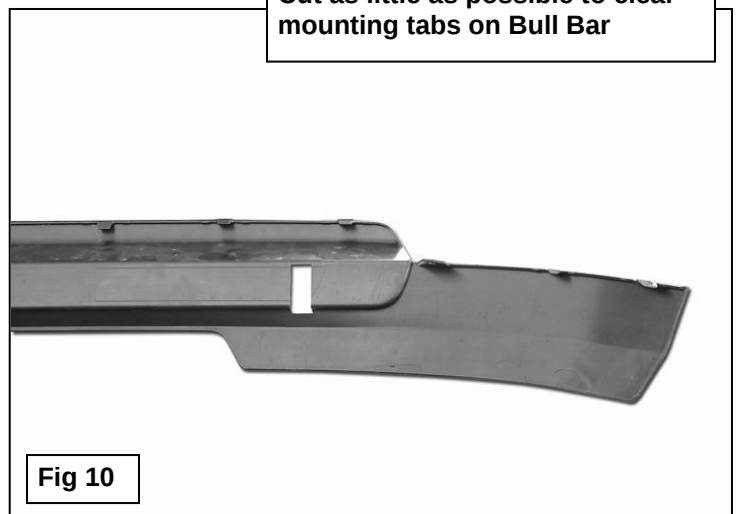

Fig 10
6. Use the location of the previously installed Frame Mounting Bracket to determine where to draw the top and bottom horizontal lines, **(Figure 9)**. Carefully cut this area out of the bumper cover with a sharp knife or hacksaw, **(Figure 10)**. **IMPORTANT:** Do not cut through the top or bottom edge of the bumper cover. Only remove enough material to clear the mounting tabs on the Bull Bar.